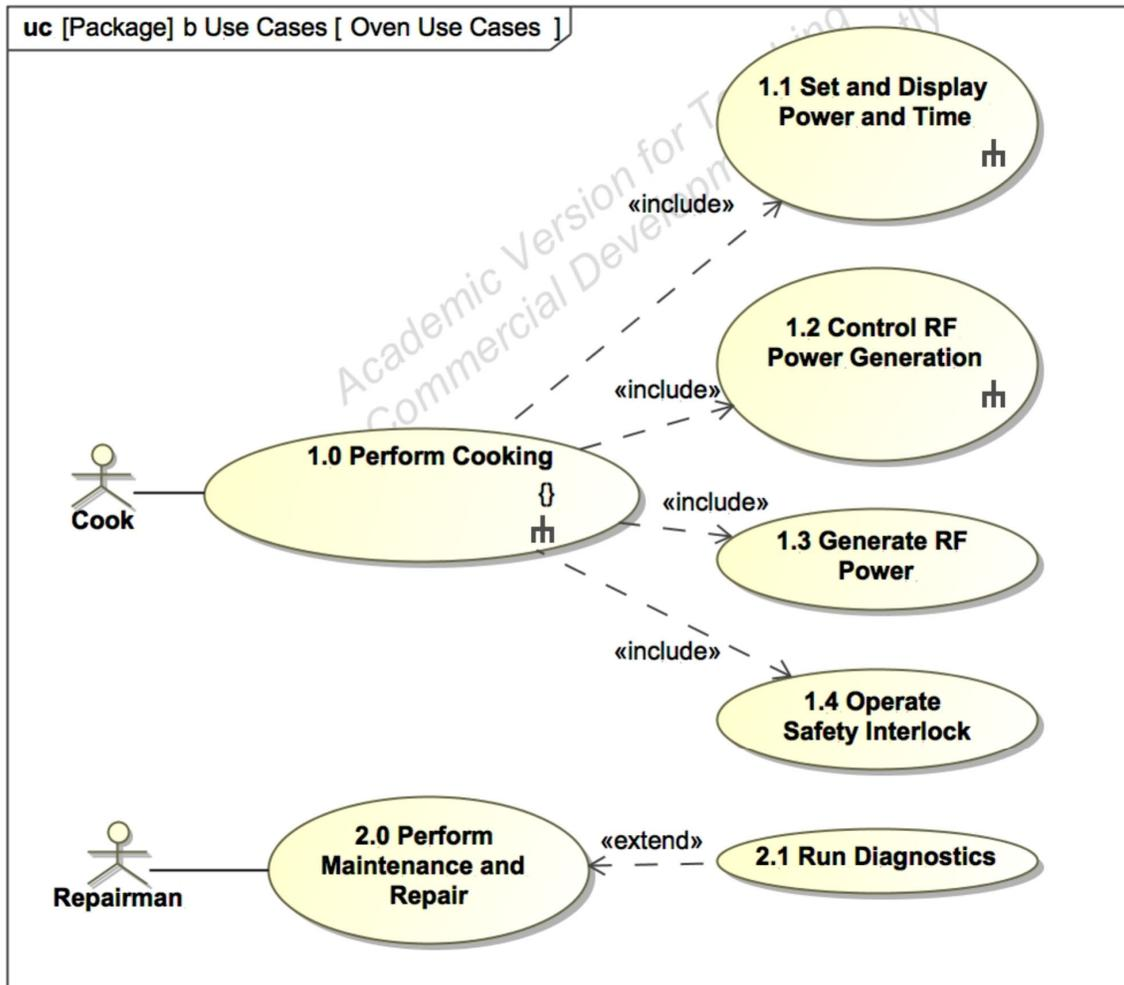
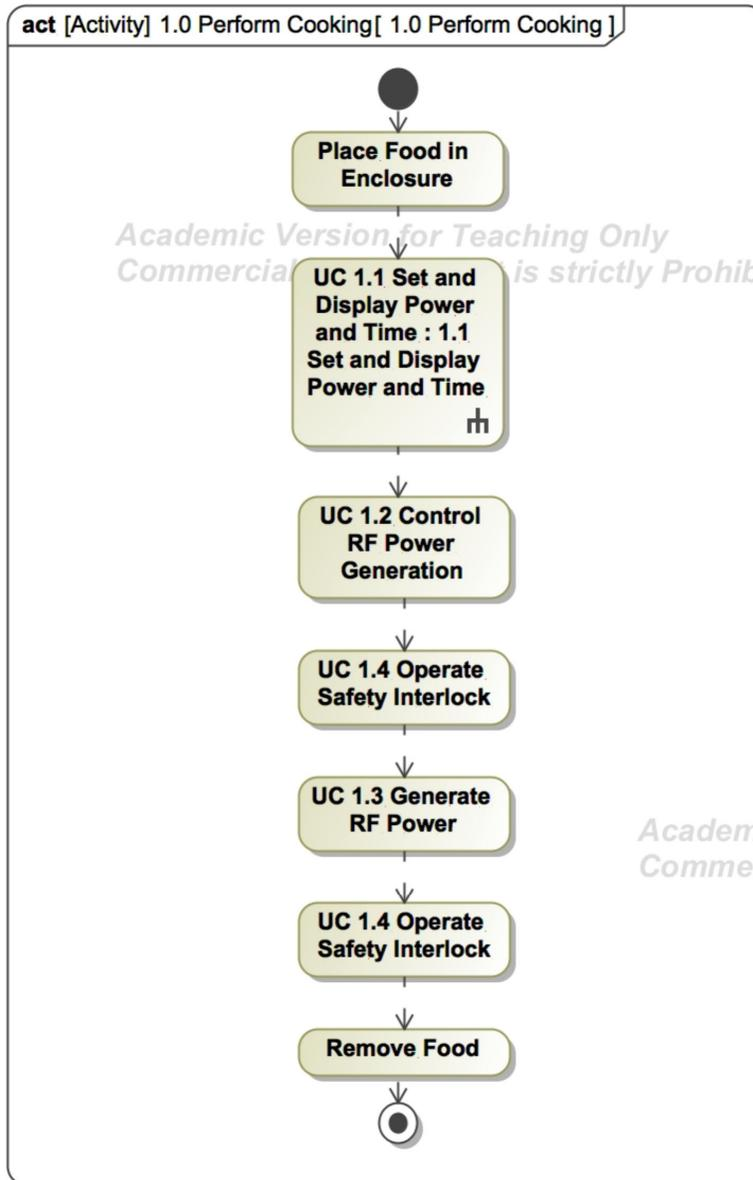
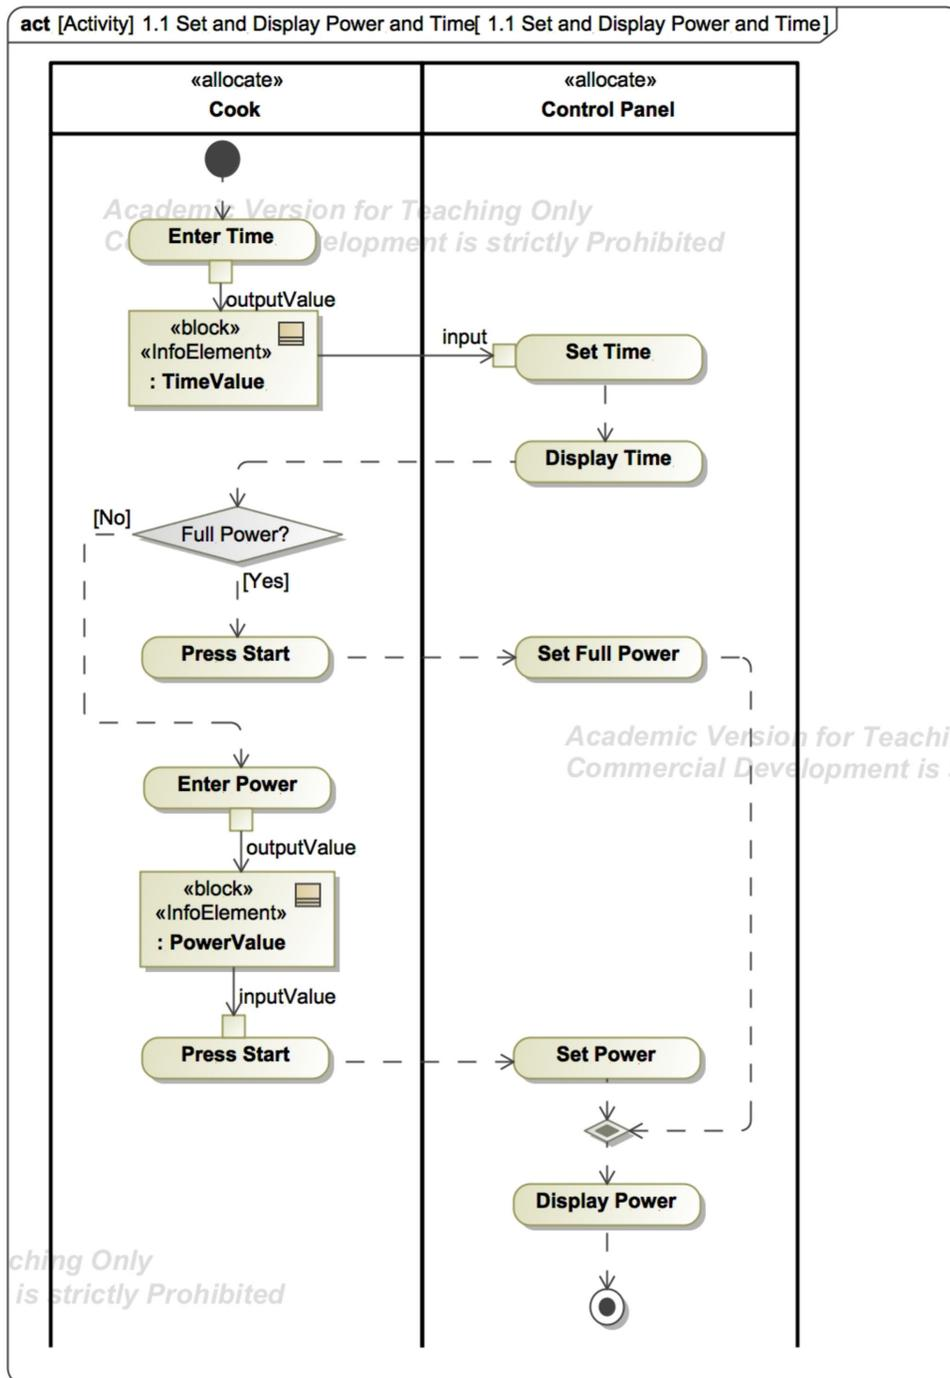

Figure 25. Use Case Diagram
Figure 27. Use Case Scenario Activity Diagram with Subordinate Use Cases
Figure 28. Lower Level Scenario Activity Diagram.
C. Fig. 25 shows some UCs from the microwave oven model. The steps to create the diagram are:
- In the UC area of the Tool Palette, select the UC icon, hold down the Shift key, and click multiple times in the diagram. Drag the UCs to create a pleasing layout and give each UC a name. It's a good idea to use a numbering scheme like the one shown in Fig. 25.
- The other primary Dependency is <<extend>>, which is used to show that a specific behavior modeled as a Use Case is an optional addition to the behavior in another UC. In Fig. 25, the Repairman might choose to run some embedded diagnostics that are built into the oven. Note that this Dependency arrow points *towards* the parent UC. Create this with the Include icon from the Tool Palette or the Smart Manipulator toolbar.
- Several of the UCs in Fig. 25 have “rake” symbols in them. This identifies the fact that there are embedded diagrams, in this case Activity Diagrams showing the UC scenarios, as called for in (c) above. Double clicking UC 1.0 opens the Diagram as shown in Fig. 27. Activity Diagrams are discussed more completely in the next section.
- Fig. 27 illustrates a common modeling pattern that applies when a higher-level UC is decomposed. It shows how the lower level UCs, modeled here as Actions, operate in sequence to implement the primary behavior. Additional Actions, as well as other Activity Diagram content that will be discussed shortly, could also be included. One of the Actions also has a rake symbol, and double clicking it yields a lower level Activity Diagram as in Fig. 28. Behavioral Elements can be decomposed down to whatever level of detail is desired
- C. SysML has two ways to show Object Flows. One uses Object Nodes to model the entity that is passed by one Action to another. An Object Node can be typed by a Block that models the entity and is usually defined in the Data Package as part of the system data model. The other way to model an Object Flow uses Pins on the Actions that are connected by a Control Flow path. The Pins define the exchanged entity. Fig. 28, above, illustrates the first of these. The steps to create the diagram are:
- A simple AD showing the behavior of a single Block or of the entire system can simply contain Actions (and perhaps other content) wired up with Flows as illustrated in Fig. 27. In this case, the entire AD is a single Swimlane. More commonly, the Activity involves more than one Block, Actor, Interface, etc. each of which is represented by a Swimlane. For Fig. 28, the first thing to do is create Swimlanes by selecting Vertical Swimlane in the Tool Palette and clicking in the Diagram. If more than two Swimlanes are needed, right click in an existing Swimlane and select the desired option. Do this as many times as needed to get the required number of Swimlanes. As the Diagram develops, it's always possible to insert additional Swimlanes or delete them as needed.
- A Flow path can be divided (i.e., go to more than one Action) using a Fork, which can be Vertical or Horizontal depending on the orientation of the Swimlanes. A Join brings two or more Flow paths back together synchronously, i.e., all the incoming Paths must be active before the behavior continues past the Join. In Fig. 28, just before the Display Power Action, there is a Merge. This is an asynchronous rejoining of Paths, i.e., as soon as any incoming Path is active, the behavior continues past the Merge.